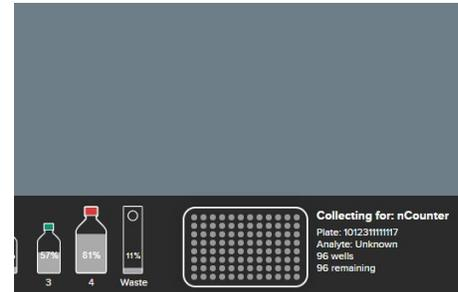

Figure 56: Plate icon in GeoMx DSP Control Center
- To finalize a plate, click on the plate icon area at the lower right of the GeoMx DSP Control Center (Figure 56). If the plate is not currently in the instrument, enter its barcode.